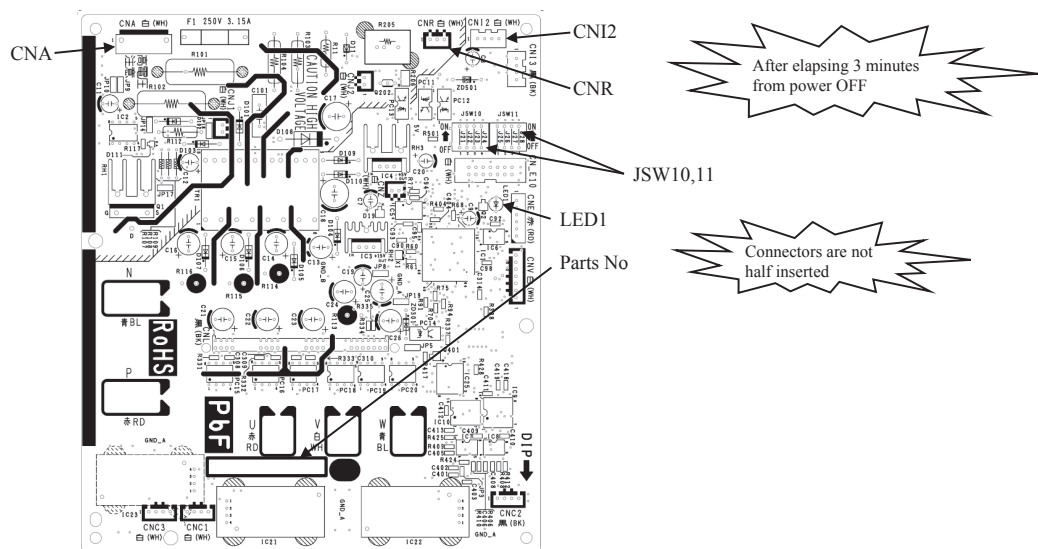

Fig.1 Parts arrangement view of inverter PCB
- 5) Disconnect connectors from the inverter PCB (Refer to Fig.1), remove a snubber capacitor (Refer to Fig.4) and harnesses (“P”, “N”, “U”, “V” and “W”), and exchange the inverter PCB then. In the situation of being opening main layer, do not press the control from above. It will cause the product deformation or injury.